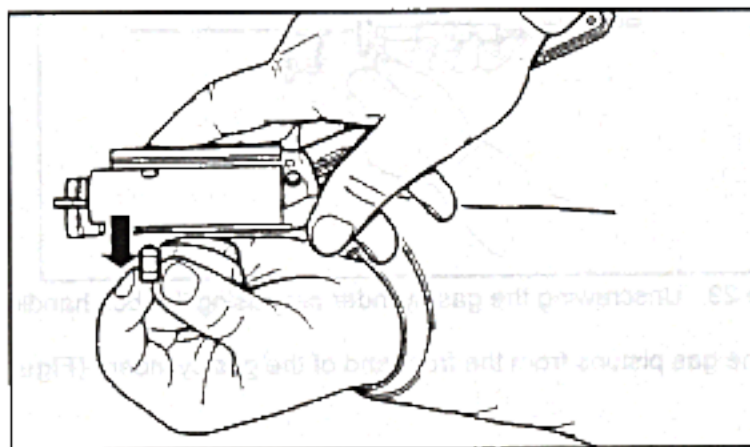

Figure 27. Removing the cam pin from the bolt assembly
- D. **Cam pin** – Lift or shake the cam pin from the bolt assembly (Figure 27).